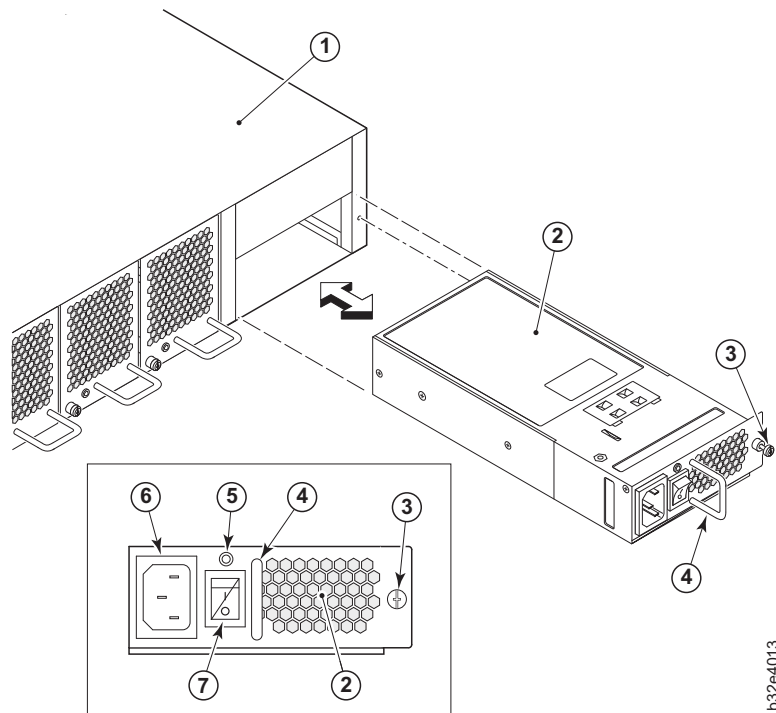

Figure 18. Installing a new power supply
- Check the power supply status LED above the On/Off switch (**5** in Figure 18 on page 38). If the power supply status LED is not on, verify that the power supply is on and seated and the power cord is connected to a functioning power source. If the light does not turn green, the power supply may need to be replaced.
1. Power off the power supply being replaced by pressing the AC power switch (**7** in Figure 18) to "O".
6. Orient the power supply as shown in Figure 18, with the AC switch on the left.